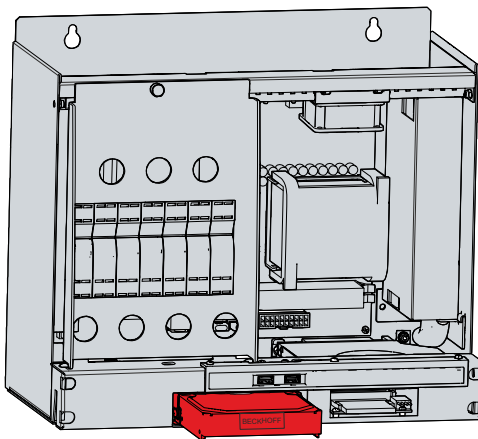

Fig. 36: Exchange hard disk
1. Pull the hard disk vigorously out of the PC by the protruding Beckhoff sticker (see Fig. 36).